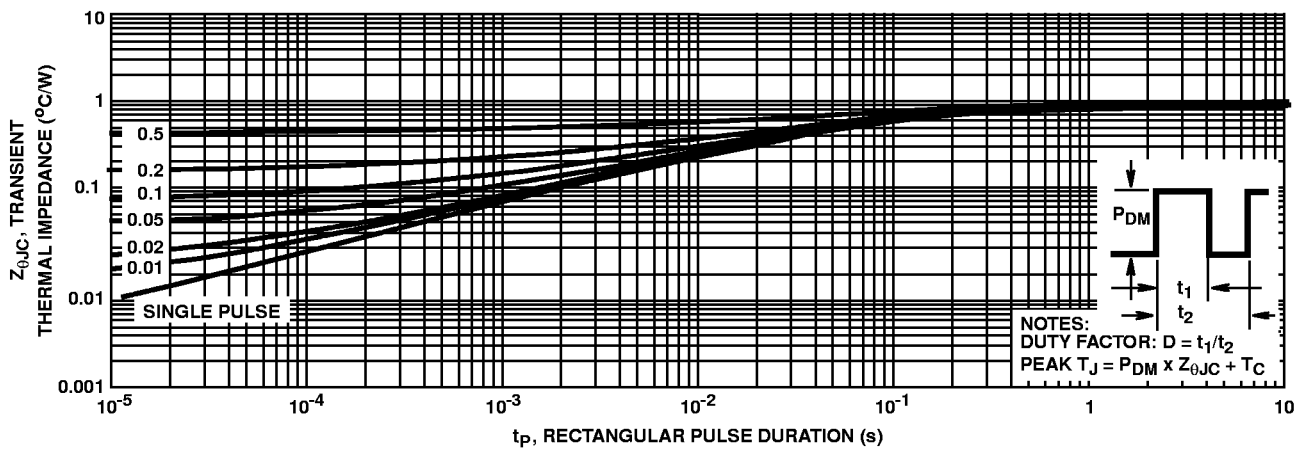

FIGURE 3. MAXIMUM TRANSIENT THERMAL IMPEDANCE
3. Repetitive Rating: Pulse width limited by maximum junction temperature. See Transient Thermal Impedance curve (Figure 3).